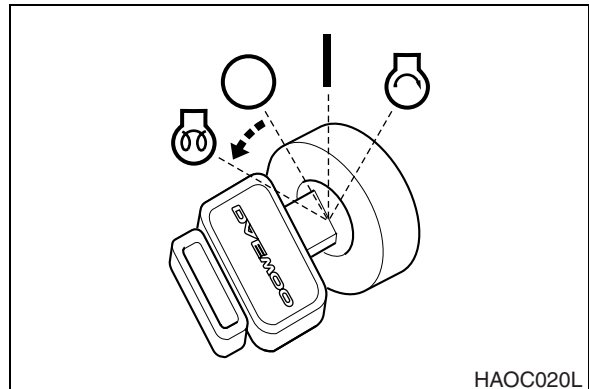
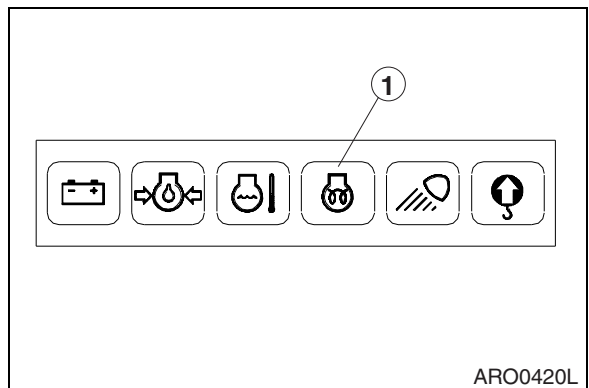

Figure 8
Figure 9
4. Turn starter switch to  (PREHEAT) position (Figure 8). Hold it there for 19 seconds. When preheat cycle is completed, the preheat indicator light (1, Figure 9) will turn "ON."